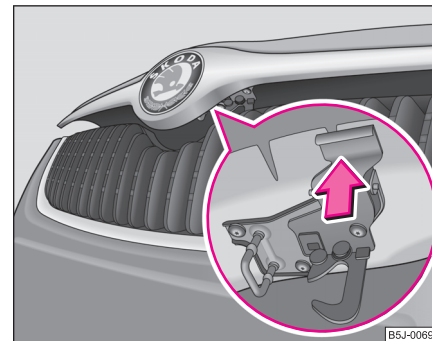

Fig. 142 Radiator grille: Fuse
- Press the locking button ⇒ page 197, fig. 142, the bonnet unlocks itself.